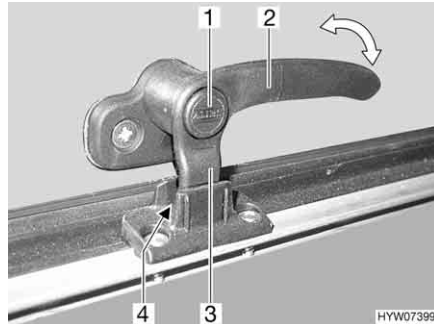
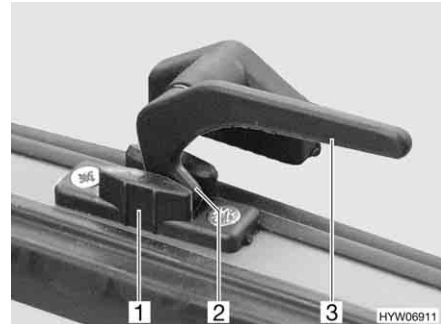

Fig. 74 Catch lever with safety knob in "continuous ventilation" position
Fig. 75 Catch lever in the "continuous ventilation" position
- "Continuous ventilation" (Fig. 74 and Fig. 75)
- Press and hold the security button (Fig. 74,1), if present.
- Turn the catch lever (Fig. 74,2 or Fig. 75,3) a quarter turn towards the centre of the window.
- Return the catch lever to its initial position. Move the locking catch (Fig. 74,3 or Fig. 75,2) on the catch lever into the recess of the window catch (Fig. 74,4 or Fig. 75,1).